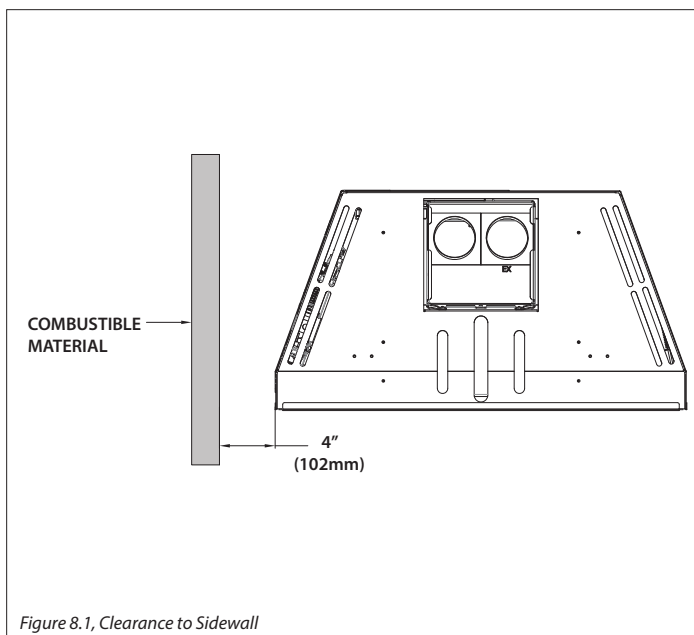

Figure 8.1, Clearance to Sidewall
- The adjacent sidewall minimum clearance is 4" (102mm) from the appliance sides (Fig 8.1).